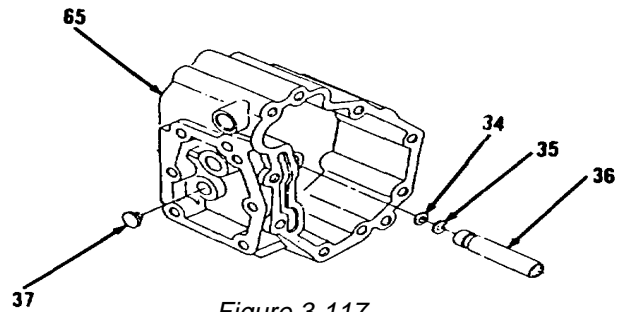
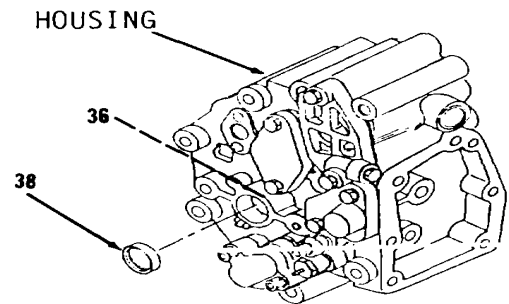

Figure 3-117.
Figure 3-136.
30. Install valve (37, Figure 3-117), if removed.
31. Install guide (36) approximately 0.055 inch below machined mounting surface of housing (65).
32. Using snap ring pliers, install ring (35) in bore of guide (36).
33. Using suitable driver and hammer, install new seal (34) with lips of new seal (34) facing inward in guide (36).
34. Using clean oil, lubricate lip of new seal (34) lightly.
35. Using suitable driver and hammer, install new seal (38) until new seal (38) seats on guide (36) with lips of new seal (38, Figure 3-136) facing in.
36. Using clean oil, lubricate lip of new seal (38).